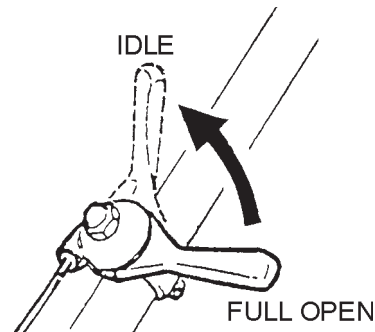

Figure 11. Throttle Lever (Idle)
- Move throttle lever quickly from the **FULL OPEN** to **IDLE** position (Figure 11) and run the engine for three minutes at low speed. After the engine **cools**, turn the engine start/stop switch to the "**STOP**" position (Figure 6) until engine comes to a complete stop.